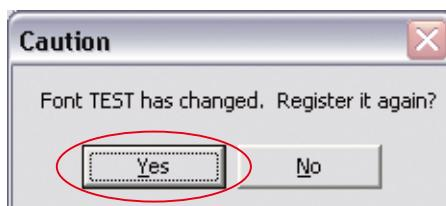

Figure 2-10 OCR_Pro9
Step12: All characters are registered and press **OK**. The dialog shown in Figure 2-10 appears and press **Yes**.